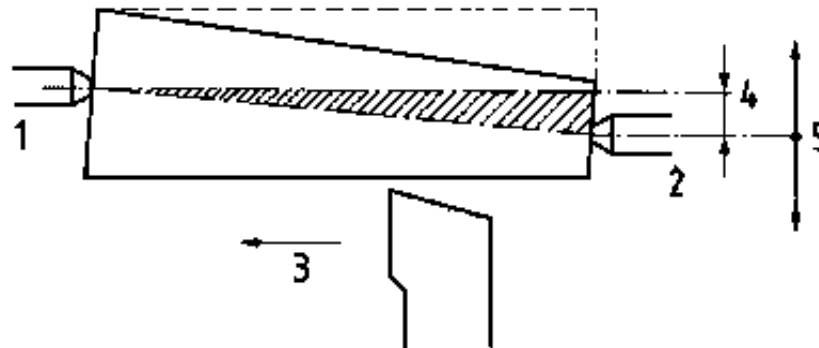

Figure 23 Possibility of tailstock adjustment
- The tailstock is to be checked for central position and, if necessary, to be aligned as per Fig. 23 so as to ensure centring of the centre position of the workpiece with the centre drill chucked. For this purpose the tailstock can be adjusted to either side. Height correction is not possible.